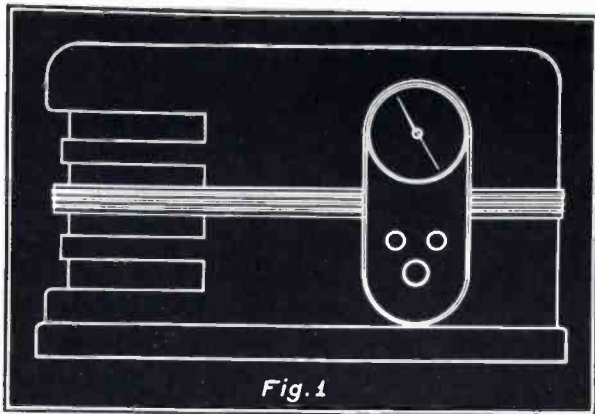
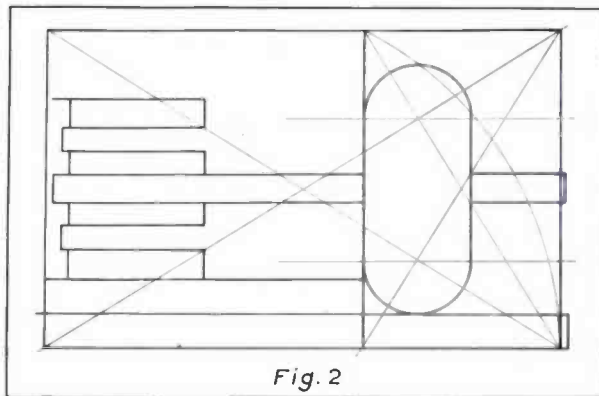
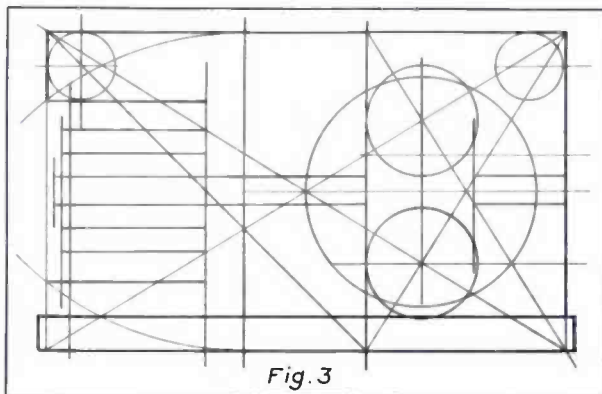

Fig. 1
Fig. 2
Fig. 3
This principle is utilized in effecting control of the finished product. Condensers representing each production batch are placed in an oven for four hours at a temperature of 85°C, after which time they are removed, cooled to room temperature and then tested as follows: The condenser, C, is placed in the circuit shown in Fig. 1. With the switch S open, the d-c voltage is adjusted to the rated peak voltage of the unit. Then S is closed and the initial reading of the milliammeter is noted; readings on the milliammeter are taken after 15, 30 and 60 seconds. The value of R is chosen to keep the maximum current drawn within the range of the milliammeter. By plotting the current as a function of time, curves are obtained which indicate the relative rates of deterioration for the various production batches. Fig. 2 shows curves obtained with anodes having normal and abnormal deterioration rates. Precautions are taken during the actual formation of the anode film to prevent the production of condensers which have abnormal rates of deterioration. These precautions include satisfactory control of the temperature, concentration and purity of the electrolyte, and the proper choice of current density.
ers and in addition will illustrate the wealth of original thought that stems from the same theme. It will be impossible in one short article to break down more than a few of these examples, but for the sake of illustration let us consider the design data of one of these midget sets and resolve its dimensions into its design fundamentals. Fig. 1 represents the cabinet in question, a plastic case with brushed chromium escutcheons. We must first determine the theme or root figure used in the design and so, by methods similar to those explained in Part II, we arrive at Fig. 2, indicating that the boundaries of the cabinet itself have been created about the Whirling Square formula. Our next step, then, is to determine the method of subdivision used in developing this theme; i. e., whether to carry out the reciprocal method or resort to the addition and subtraction of parent shapes. Fig. 2 indicates that many of the component parts of the set lie at intersections of diagonals or diagonals of the reciprocals and therefore it is reasonable to believe that the reciprocal method of subdivision was used. Now that we know the root figure employed and the method of subdivision used, it is an easy matter to carry Fig. 2 into a more complex arrangement and produce the necessary intersections and parallels to satisfy the requirements of the design. Fig. 3 represents such a development of the fundamental area and delineates the position of the minor parts by means of successive intersections. Looking at the design from a coldly critical standpoint, we must admit that it is interesting and yet not ornate. The center of the dial (A), the dominant feature has been placed at the intersection of the diagonal of the whole and the diagonal of the reciprocal which we know to be the major emphatic point. The tuning knob (B) occupies the secondary point of interest and is therefore placed at the point of secondary intersection. The weight of the control group is evenly balanced by the speaker grille work and the cabinet itself gives the impression of a clean, economical and interesting piece of cabinet engineering.